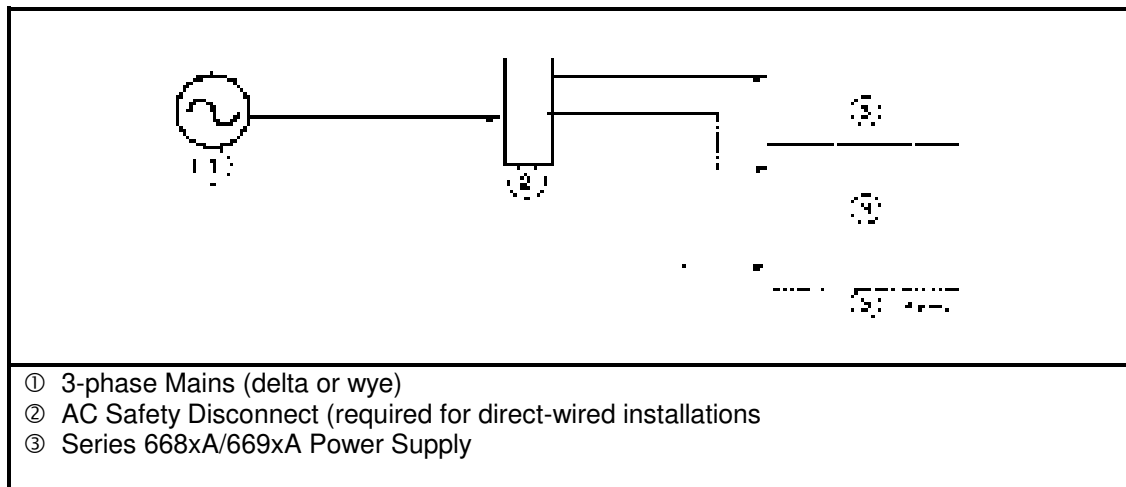

Figure 2-4. Series 668xA/669xA Overall Wiring Diagram.
The Series 668xA power supply requires a 3-phase power source that provides 7350 VA (6000 W) maximum. The supply has a delta input (no neutral connection) and will accept power from either delta (triangle) or wye (star) sources. Two voltage ranges are available (see "AC Input Ratings" in Table 1-4a). *In order to maintain phase current balancing, the power source should be a dedicated line with only Keysight Technologies Series 668xA/669xA supplies drawing current from it.* A disconnect box located near the power supply (see Figure 2-4) is recommended for all installations and *is mandatory for direct-wired installations.*
The Series 669xA power supply requires a 3-phase power source that provides 9000 VA (7950 W) maximum. The supply has a delta input (no neutral connection) and will accept power from either delta (triangle) or wye (star) sources. Two voltage ranges are available (see "AC Input Ratings" in Table 1-4a). *In order to maintain phase current balancing, the power source should be a dedicated line with only Keysight Technologies Series 668xA/669xA supplies drawing current from it.* A disconnect box located near the power supply (see Figure 2-4) is recommended for all power cords with plugs and is mandatory for hard-wired power installations.
- c. **Series 668xA** - Unscrew the fuse caps from the rear panel (2, Figure 2-4). Verify that the fuse is as specified on the label. Replace the fuse.